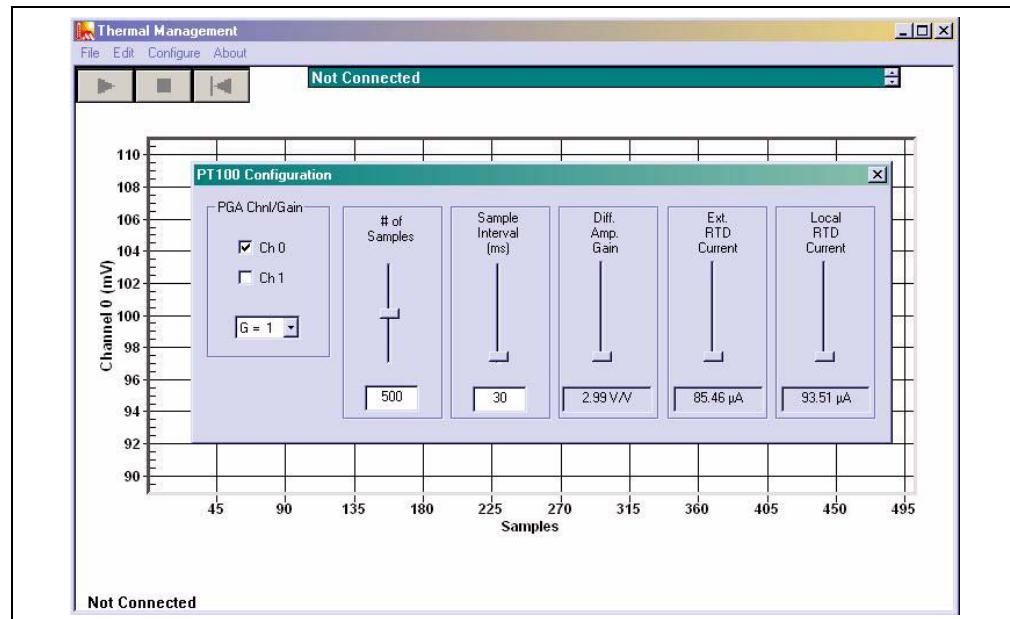
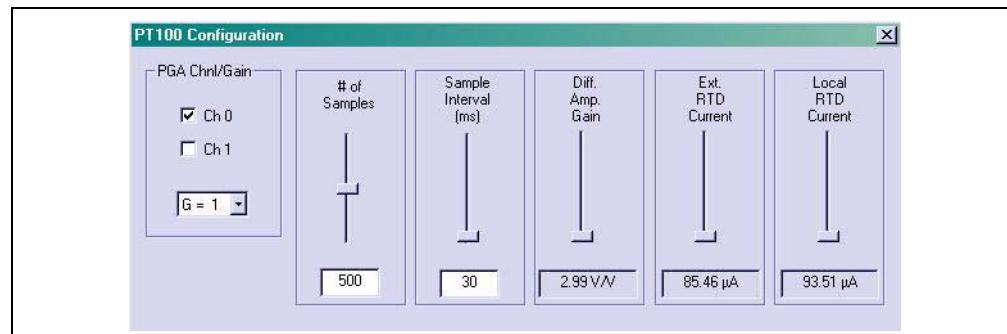

FIGURE 2-3: PC Software GUI.
FIGURE 2-6: Hardware Status
- Updated Figure 2-3 and Figure 2-6.
- Once the USB connection is secure, start the *PT100RTD ThermalManagement.EXE* file and select **Enable Macro**. When the software starts, the Configuration window will be displayed, as shown in Figure 2-3.